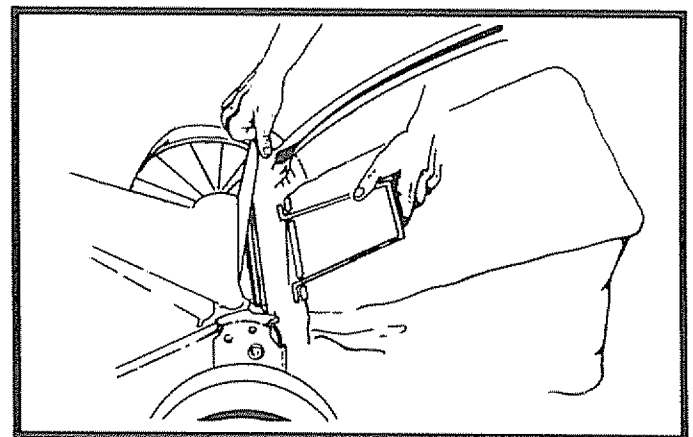

FIG. 7
- Lift up rear door and remove the grass catcher by the handle (See Fig. 7).